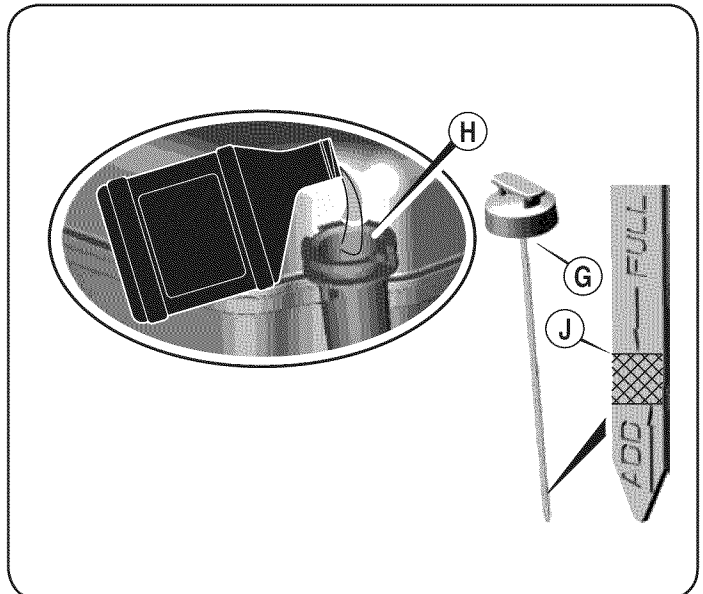

Figure 14
2. Remove the oil fill dipstick (G) and wipe it clean. See Figure 14.
4. If the oil level is near or below the lower limit mark on the dipstick, remove the oil filler cap/dipstick, and fill with the recommended oil (H) to the upper limit mark (J). Do not overfill.